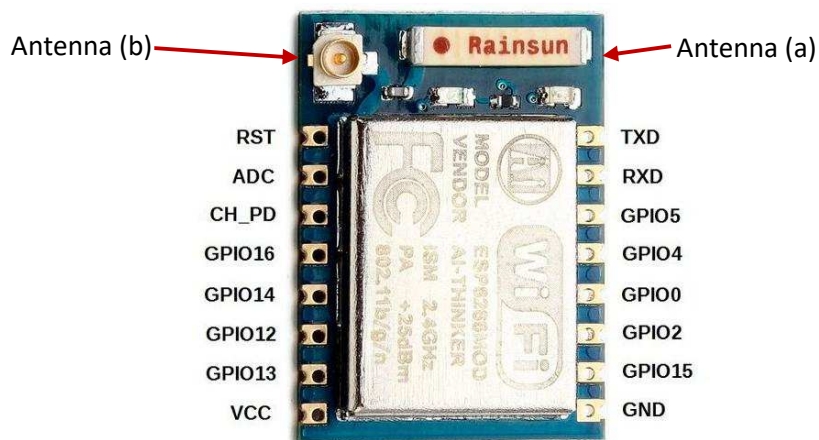

Figure 2: ESP8266-07 Pinout and Commonly Available Module.
Fig. 2 shows the ESP8266-07 breakout model, which adds two important hardware facilities regarding the ESP8266-01:
- Two alternative physical antennas: a ceramic one, identified as (a) in Fig. 2, and with which the breakout is completely functional, and a connector to an external antenna, identified as (b) in Fig. 2, which usually improves WiFi signal/reduces signal attenuation.